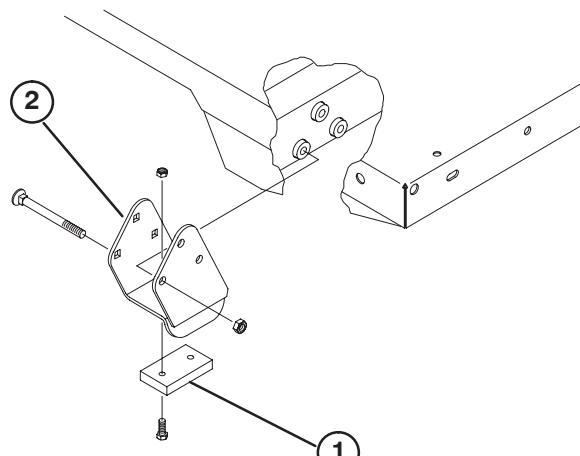

Figure 11
**Note:** Make sure spacer brackets and wear blocks (Fig. 11) are installed or radiator cover may be damaged.